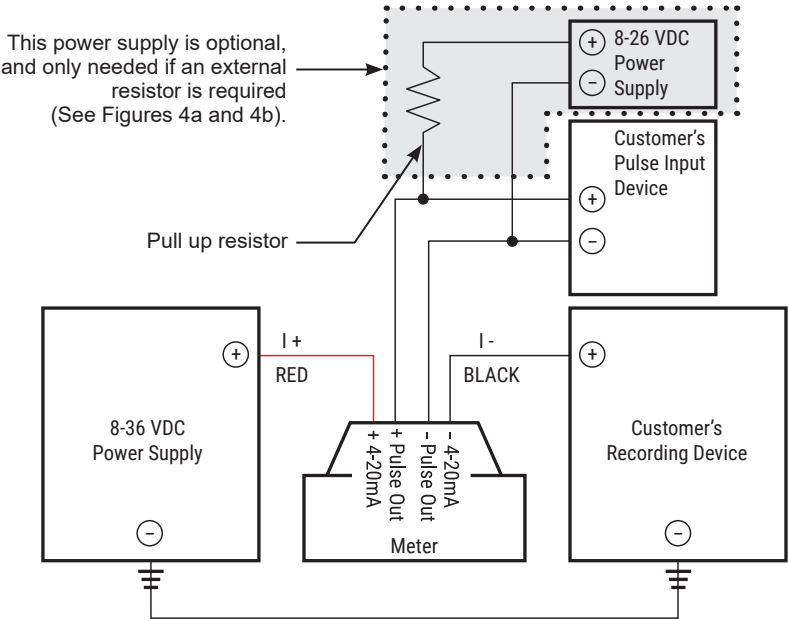

Figure 3
1. The 4-20mA module comes pre-wired for external connections to external power and provides an open collector output which can be set to either raw or scaled pulse output. The wires are color coded to be connected as shown in Figures 3 & 4.
NOTE: The internal and external options for the pull up resistance and voltage is selectable by the jumper on the 4-20mA board (see Figures 4a & 4b). When the Jumper is on the top two pins, the 'external resistor required' option is selected (Figure 4a). This external resistor can be installed as shown on Figure 3, but could also be built into the existing customer equipment. When the Jumper is located on the bottom two pins, the 'internal resistor' option is selected (Figure 4b).